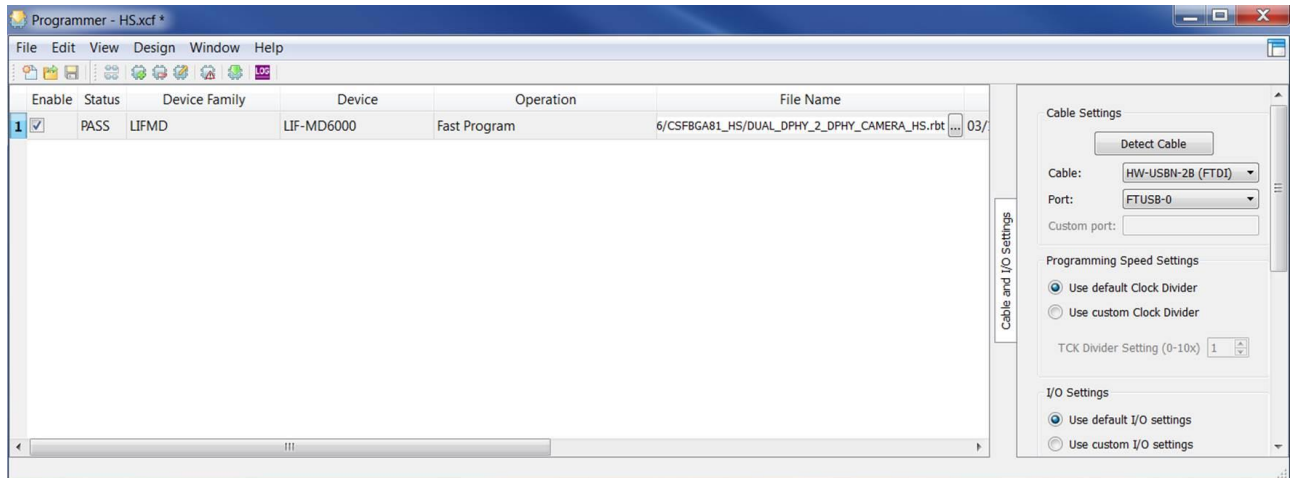

Figure 5.2. Diamond Programmer
4. The Diamond Programmer automatically scans the device on the board, and the window shown in Figure 5.2 appears.